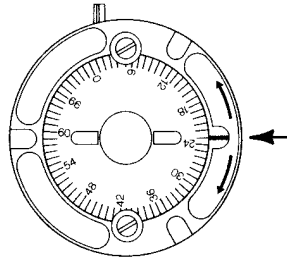

Figure 7.10.5
- E. Turn T-125 base over so that timing disk is facing you. Loosen timing disk retaining screw. Scribe a mark on the timing disk corresponding to the index mark on the T-125 base. This represents a point-of-reference for primary point “E” gap. (See Figure 7.10.5.)